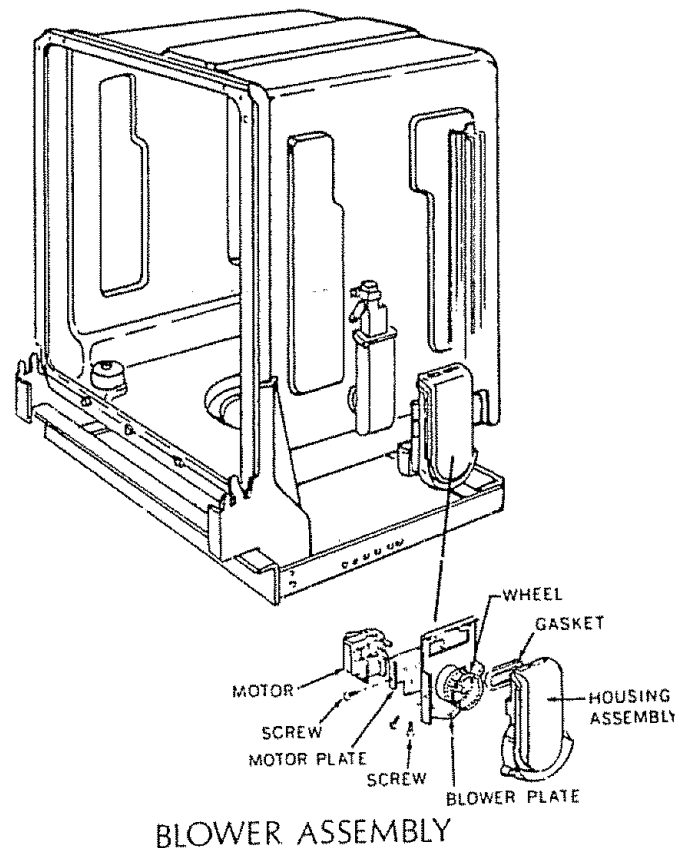

FIGURE 91
2. Remove one screw from the motor mounting plate (Figure 91)